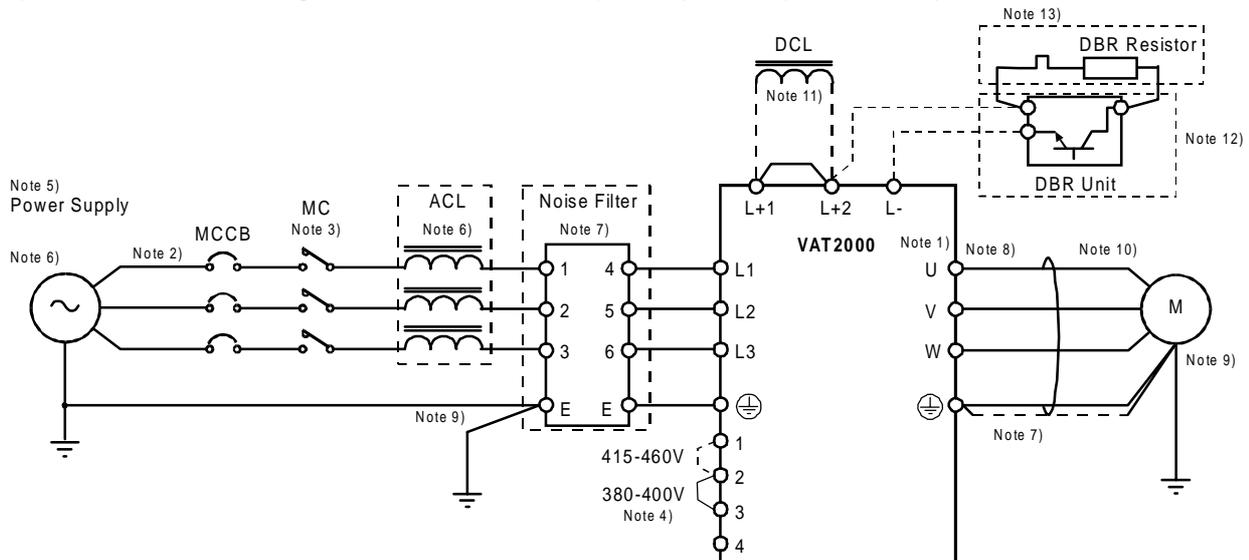

Fig. 2.4 Example of main circuit wiring
Refer to Fig. 2-4 and wire the main circuits for the power supply and motor, etc.
For the main circuit wiring shown in Fig. 2-4, use wires recommended in Table 2-1, including wire size range, ring terminal and tightening torque. The applicable wire given in Table 2-1 is for using in constant torque ratings; for variable torque, select the wire given for one higher rating, shifting one column to the right.
When connecting the optional DB unit, follow Fig. 2-4 (2) and connect the L+2 and L- for 011L, 011H and larger.